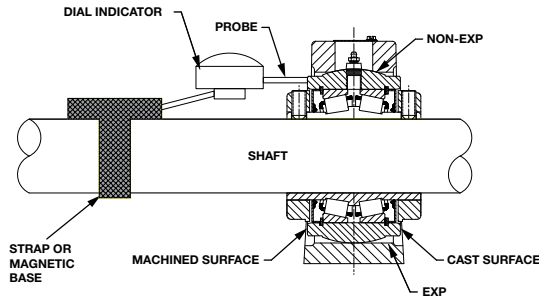

Figure 1 - Product Image
- Mount a dial indicator on the shaft near the non-expansion (fixed) bearing. Place the indicator probe so that it contacts the machined surface of the S-1 Unit Housing perpendicular to that surface. See Figure 1. Note that only one face of the S-1 Unit is a machined face.